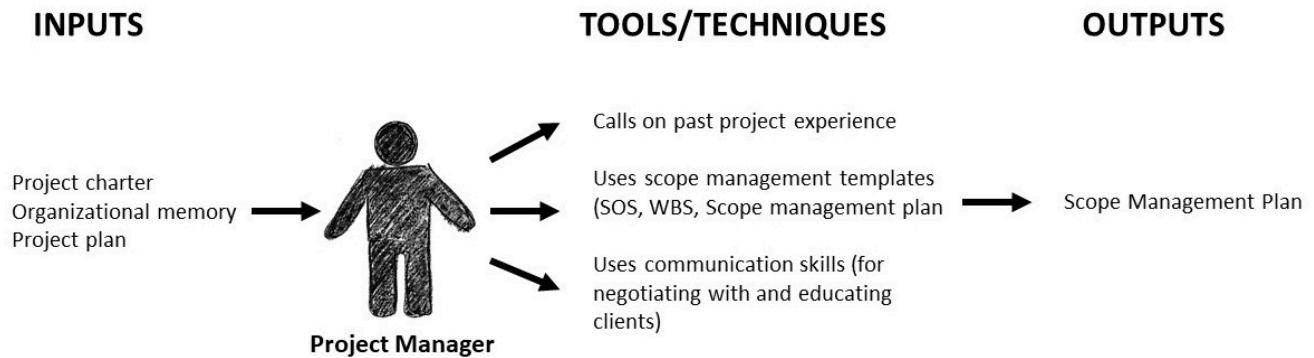

Figure 9.2: Scope input-output. [\[Image description\]](#)
vision of the final product/service, and consequently, the project scope (see Figure 9.2).
**Figure 9.2 image description:** A project manager develops a Scope Management Plan by taking the project charter, organizational memory, and the project plan and applying the following techniques and tools:
[\[Return to Figure 9.2\]](#)